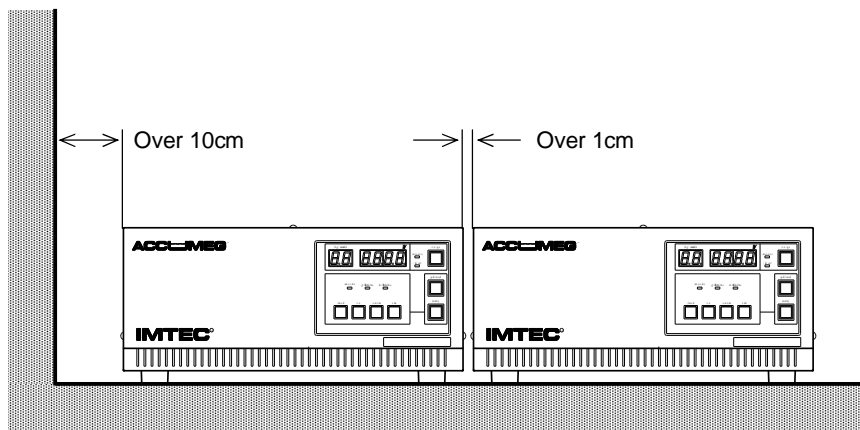

Figure 4-1 Position of the Generator
4.1. Generator - See Figures 4-1 and 4-2.